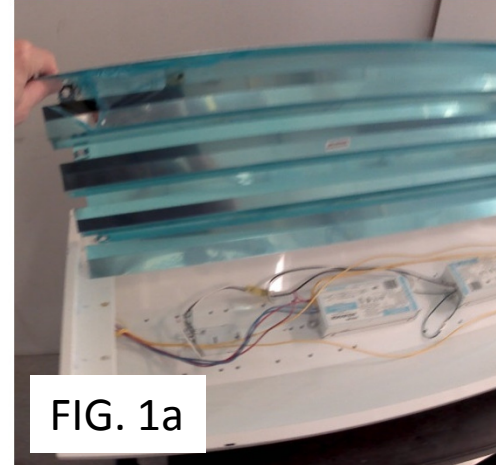

FIG. 1a
- Lift out the reflector from the fixture by twisting the connecting bars (Fig. 1a).